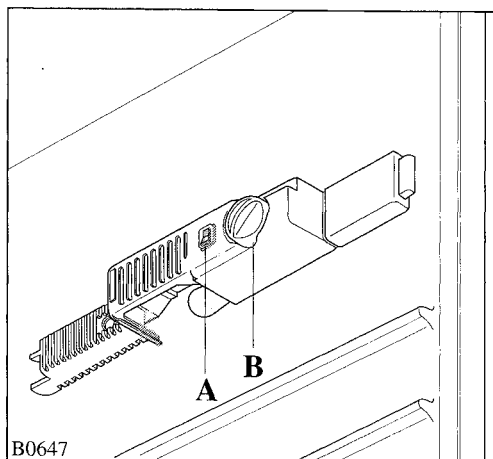

Fig. 3
**To start the cooling system, insert the plug into the wall socket and switch on. If the room temperature drops below 16 degrees centigrade, you will need to check the temperature setting. A switch is located next to the thermostat knob. (fig. 3). The operating position is where the switch is depressed (the built-in light is on).**